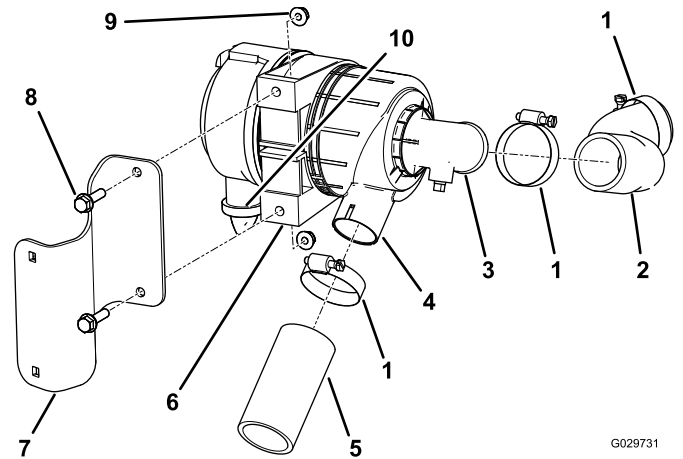

Figure 4
5. **Loosely** install the new long hose to the 90-degree fitting on the existing air-filter assembly with a hose clamp (Figure 4).
6. Install the short hose to the integrated port on the air-filter housing, and secure it with a hose clamp (Figure 4).
7. Position the mounting strap on the air-filter housing as shown in Figure 4.